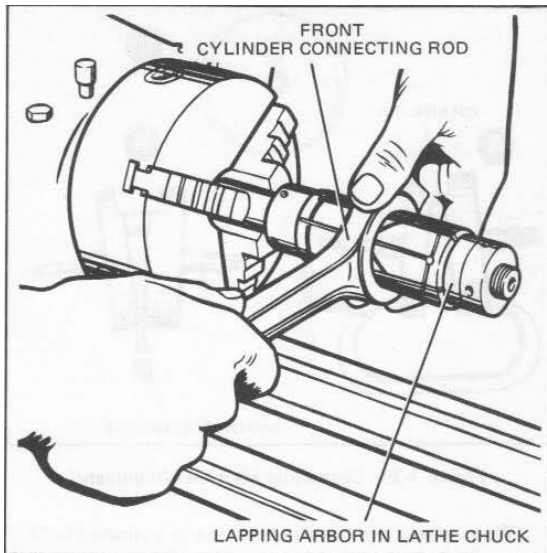

Figure 3-37. Lapping Connecting Rod Bearing Race
1. Connecting rod lower races that are likely to clean up within the range of oversize bearing rollers and are otherwise in serviceable condition, should be trued and sized with Connecting Rod Lapping Arbor, Part No. 96740-36 as shown in figure 3-37.